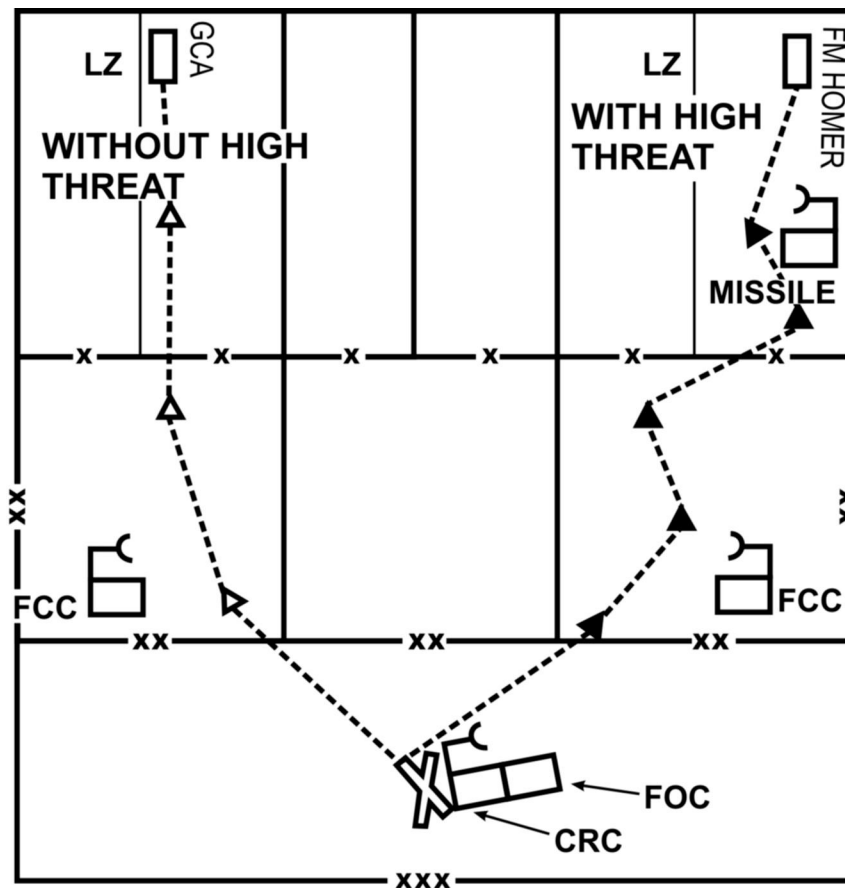

Figure 2-2. Comparison of air routes with and without a high-threat environment.
a. **Threat and Terrain.** In many instances, the threat and terrain prohibit a straight-line flight between the takeoff (liftoff) point and the destination (Figure 2-2). This applies to both Modes 1 and 2.